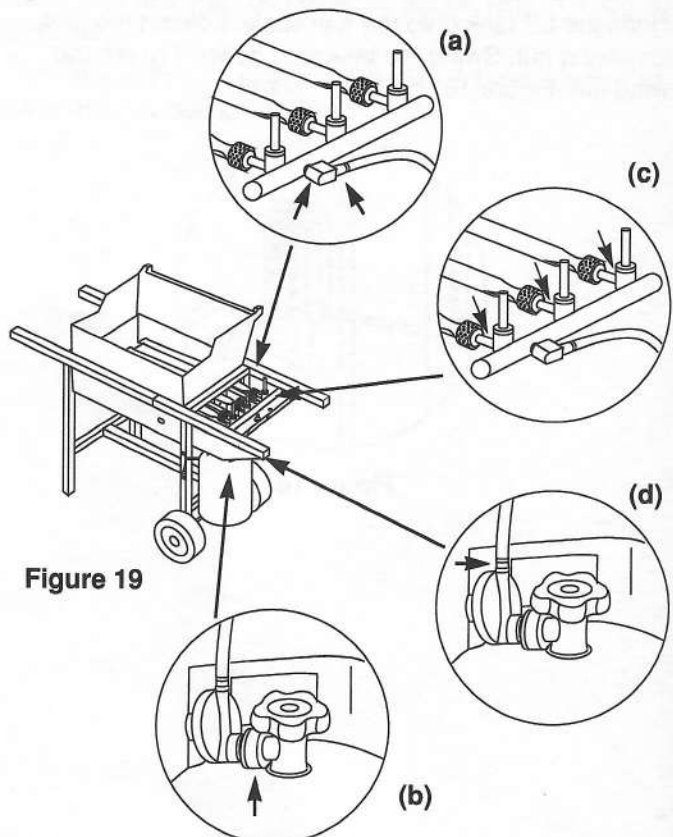

Figure 19
a) Hose to manifold connections. Figure 19 (a).
b) Regulator to tank connection. Figure 19 (b).
WARNING: If there is a leak at Figure 19 (a) or Figure 19 (b), retighten the fitting with a wrench and recheck for leaks with soap and water solution.
c) Valves to manifold connection. Figure 19 (c).
d) The hose to regulator connection. Figure 19 (d).
WARNING: If there is a leak at Figure 19 (c) or Figure 19 (d), turn OFF the gas. **DO NOT OPERATE THE BARBECUE.** Contact your dealer.